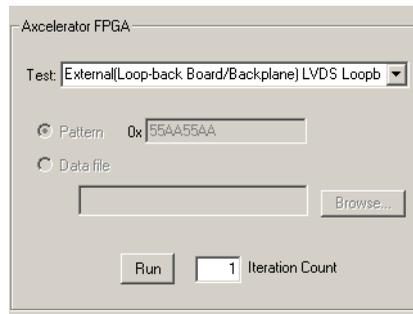

Figure 2-14. Running the External LoopBack Test
1. **From the Test selection bar menu, select the External Loop-back Board/Backplane LVDS Loopback.** See Figure 2-14.